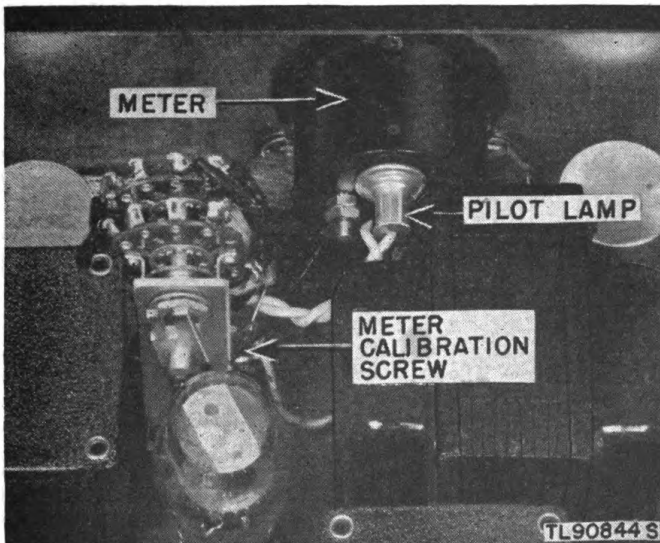

Figure 53. Meter-calibration resistor R2.
(2) Turn the selector knob to RECORD.
(3) Turn VOLUME knob to on (clockwise).
(4) Connect the output of an audio signal generator to the RADIO jack through a phone plug. Set the audio generator at 1,000 cycles. Turn VOLUME knob on recorder to right until the external voltmeter reads 2.5 volts.
(5) Turn the meter calibration screw (fig. 53) until the meter needle indicates a point on the scale at the beginning of OVER. Check the meter if it does not respond to adjustment.